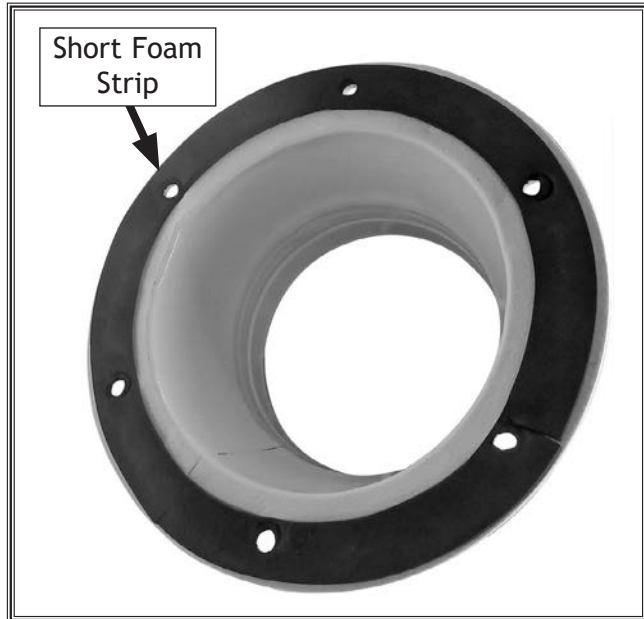

Figure 2. Flange gasket attached to collection flange.
3. Attach short foam strip to mating surface of collection flange (see Figure 2).